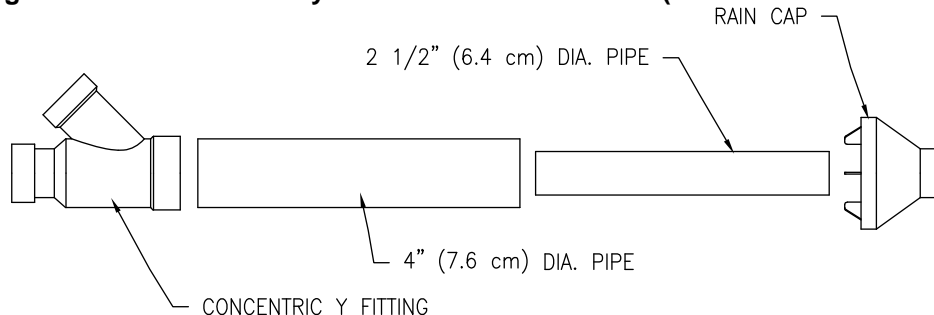
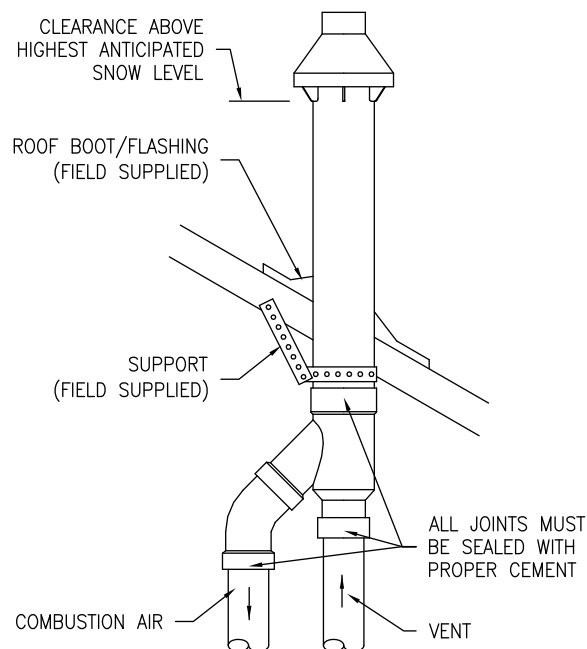

Figure 20. Concentric Vent Kit Part Identification.
Figure 22. Concentric Vent Roof Top Attachment.
- a. Cement concentric Y fitting to larger diameter pipe. (See Figure 20).
6. Secure assembly to roof structure as shown in Figure 22 using field-supplied metal strapping or equivalent support material.
Ensure termination height is above the roof surface or anticipated snow level. See Figure 22.
8. Cement heater combustion-air and vent pipes to concentric y fitting assembly (Figure 20). See Figure 22 for proper pipe attachment.
- Cement Y concentric fitting to larger diameter kit pipe. (See Figure 20).